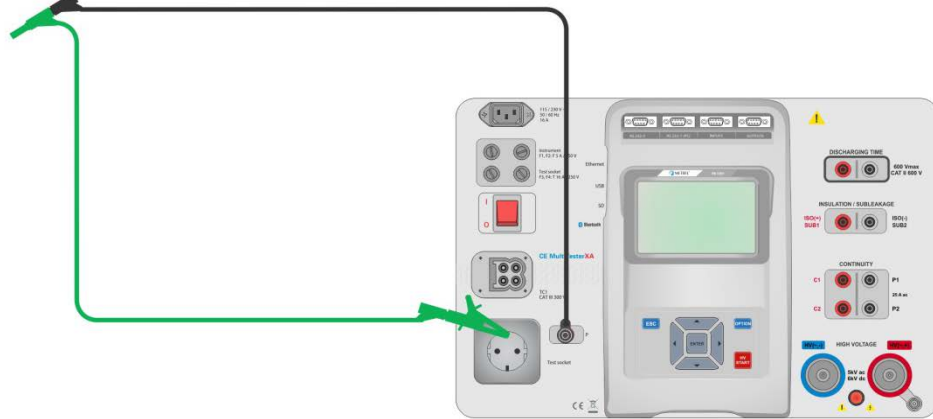

Figure 4.8: Shorted test leads
- ▶ Connect test leads to the instrument and short the test leads together, see *Figure 4.8*.